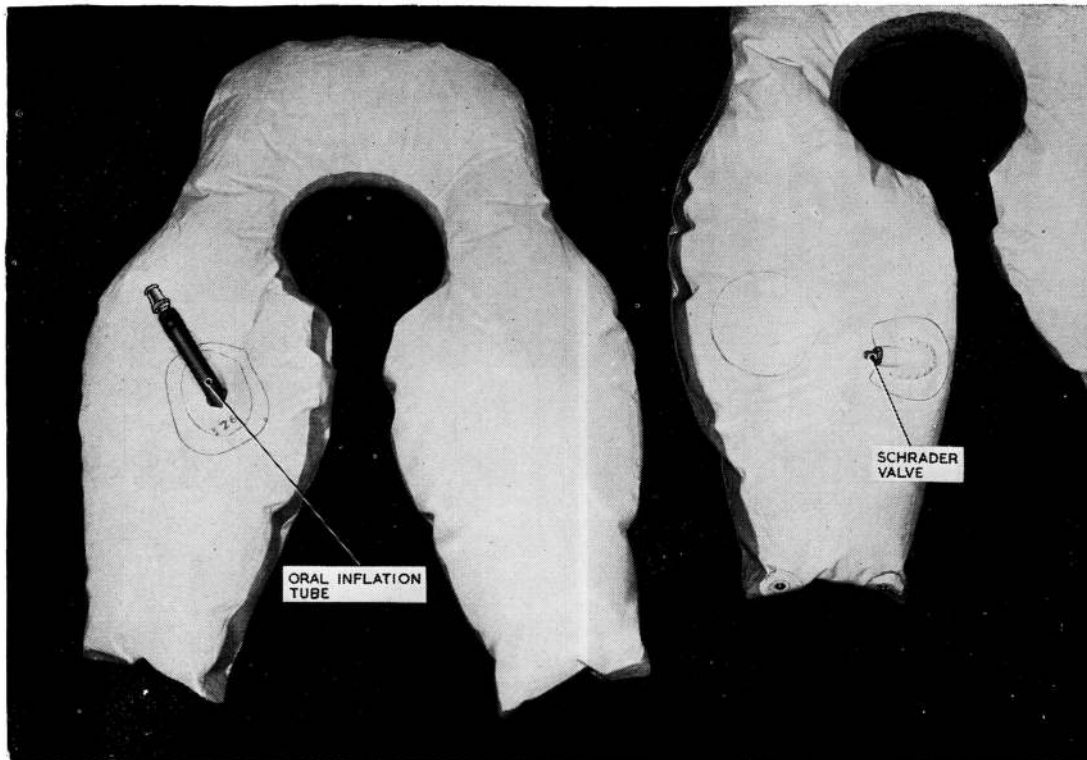

Fig. 4. Stole
5. The waistcoat (*fig. 3*) which incorporates the stole cover, is made of fabric dyed yellow, and the stole (*fig. 4*) is made of rubberproofed fabric. The life jacket buttons at the front, and can be adjusted by a webbing waistband with non-slip buckles. The dinghy pack is attached by two quick-release fittings on adjustable straps, one on each side in front of the life jacket. The dinghy lanyard is connected to a third quick-release fitting attached to a webbing loop on the right-hand side of the life jacket.